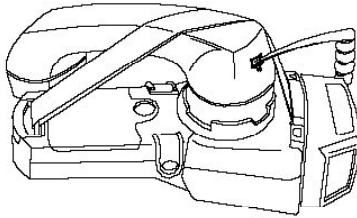

Figure 4-18. Connection for Acoustic Coupler
4. Reattach the hand strap, securing the phone to the terminal, as shown in Figure 4-18.